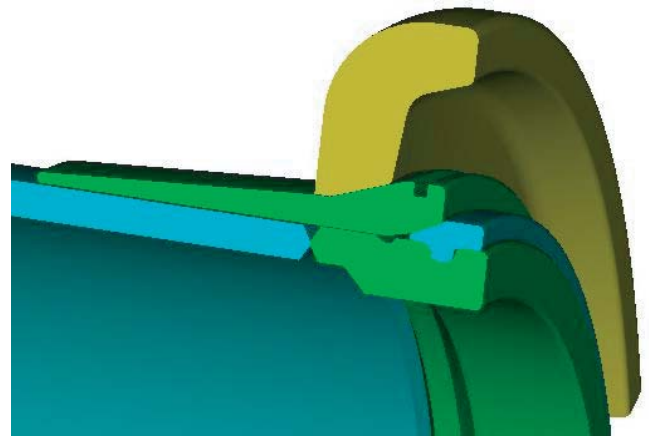

FIGURE 4
- Entire 5 degree area of the bead seat band where the tire bead will contact during the seating procedure (See figure 4).